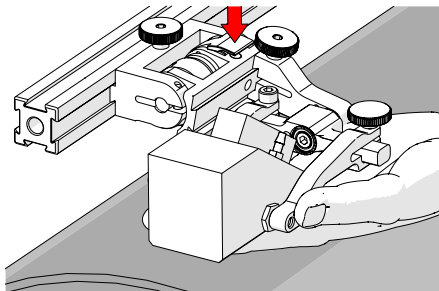

Fig. 44 - Lift and press latch button
3. Lift the probe slightly and press the latch button (Fig. 44) to apply spring pressure to the wedge.